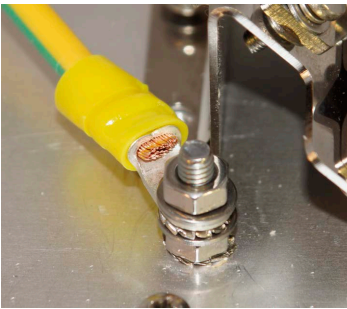

Figure 8: Grounding Bolt
**Note** The grounding strap must be as short as possible. If wire is used, use a minimum of 2.5 mm² copper wire. See *Figure 8: Grounding Bolt* on page 14.